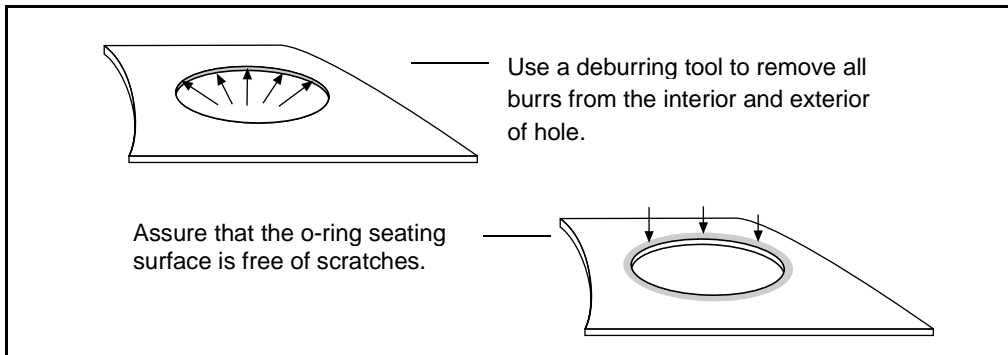

Figure 2.14 Burr Removal and O-Ring Seal Surface Inspection
1. Drill a 19 mm (0.75 in) hole through the vehicle's metal surface, and carefully use a deburring tool to remove burrs from the interior and exterior of the hole (see Figure 2.14).